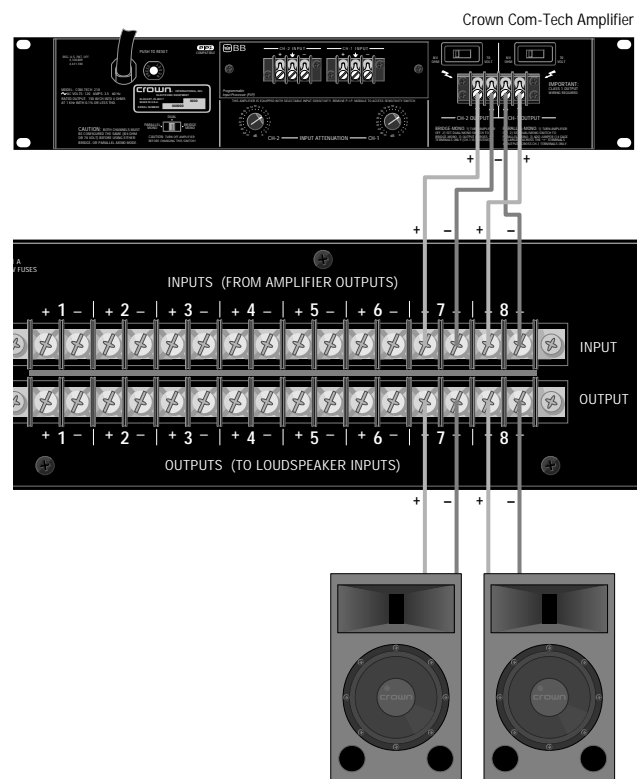

Fig. 4.6 Audio Input/Output Wiring
Step 6: Connect the audio wiring to the SLM-8 inputs and outputs. The most common application of the SLM-8 is to monitor the impedance of loudspeaker loads and to monitor the frequency response and overall level of amplifier outputs. With eight channels, an SLM-8 can accommodate up to four two-channel amplifiers. A sample is shown below in Figure 4.6: